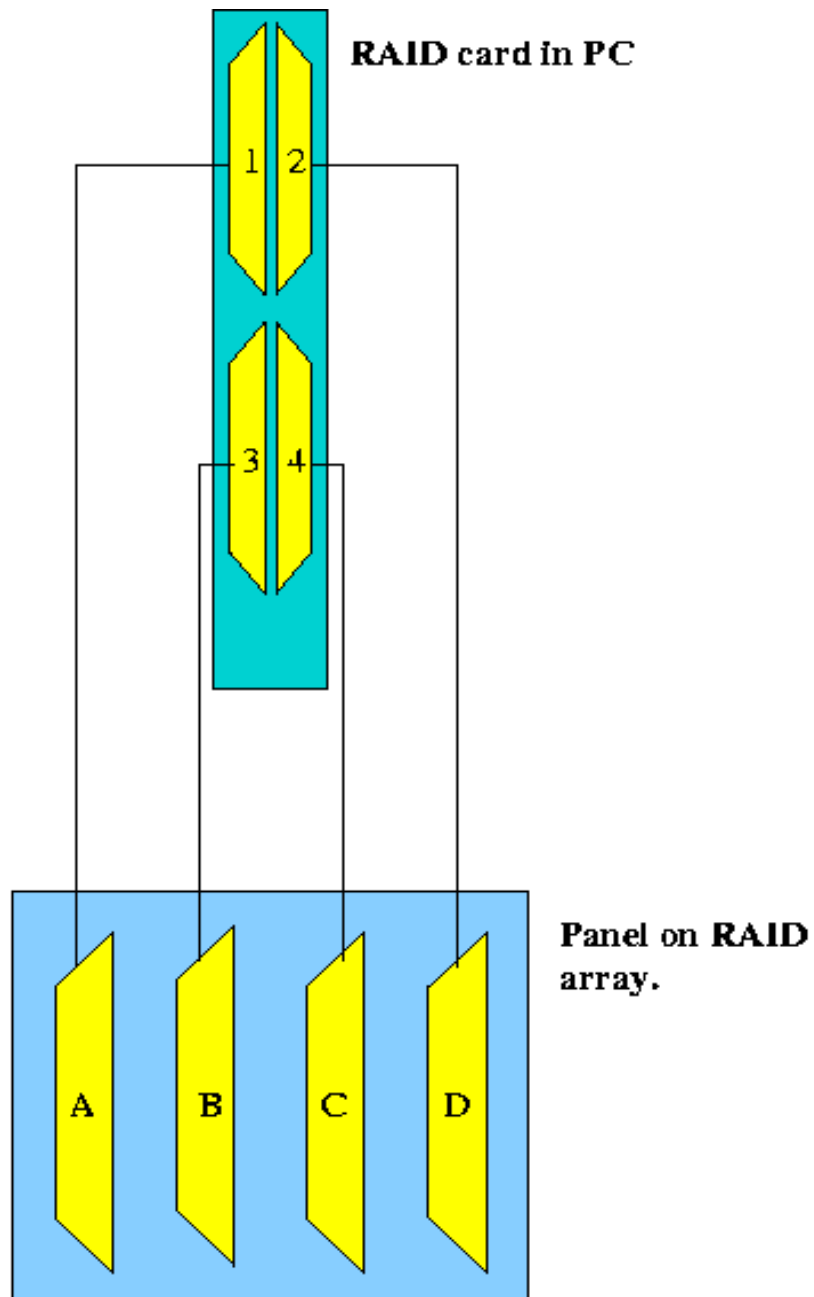

Figure 9.2: Raid Array Cabling
4. Raid array cables, which connect the raid card in the PC to Raid Array rack unit. Details of the raid array cabling are shown in Figure 9.2.
(5) RAID ARRAY